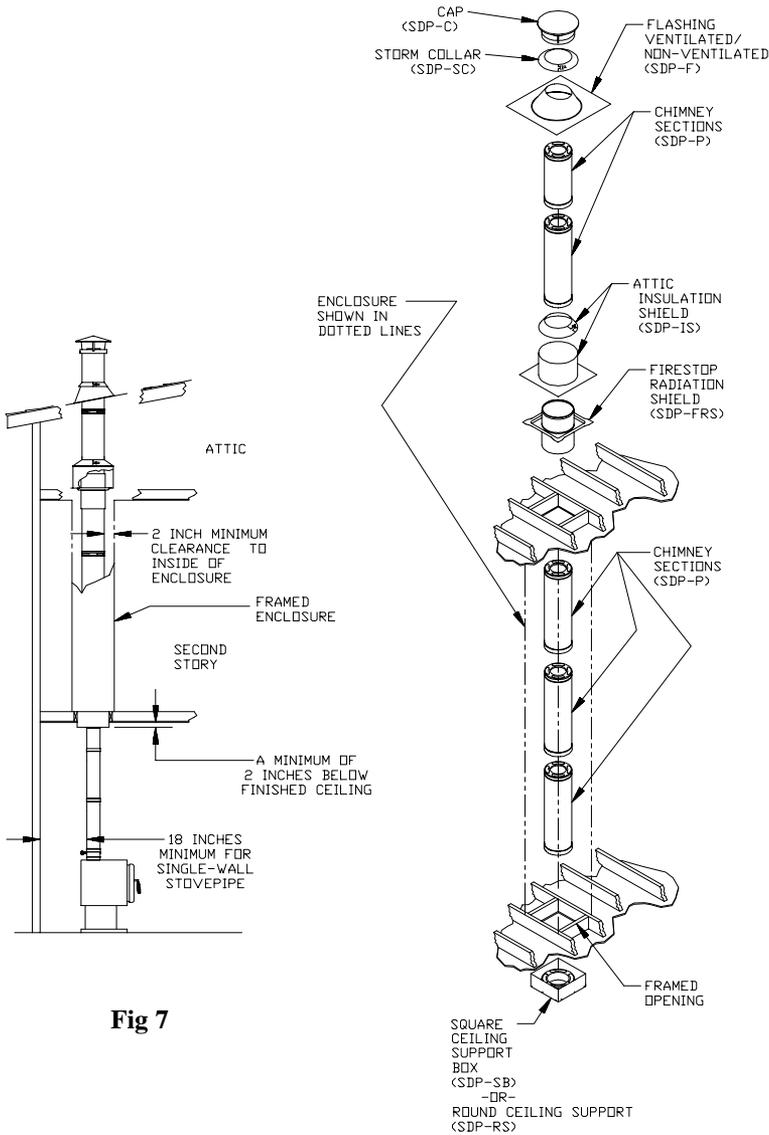

Fig 7
4. Frame Openings: Frame openings in each ceiling or floor above the **Support Box**. (Figure 7). These openings are to hold the **Firestop Radiation Shields** and **Attic Insulation Shields**. Locate each opening by dropping a plumb bob to the four corners of the opening below. Maintain the minimum clearances and dimensions as specified in
radiation shield, a ceiling, and into an attic. The other is a multi-story building where the chimney passes through a **Firestop Radiation Shield**, through a ceiling, into another story, and then into an attic. Each of these require a different configuration of the **Firestop Radiation Shield**. Figure 7 illustrates the two-story building. In the case of the two-story installation, the base of the **Firestop Radiation Shield** is nailed to the top of the framing, with the pan (the depressed portion of the base), facing downwards. For the multi-story installation, the base is nailed to the bottom of the framing with the pan facing upwards. The cylindrical component of the **Firestop Radiation Shield** is then slipped down through the base from the top
c. Slip the **Insulation Shield** over the **Chimney** and **Firestop Radiation Shield** until the base sits squarely on the framed opening. (Figure 7).